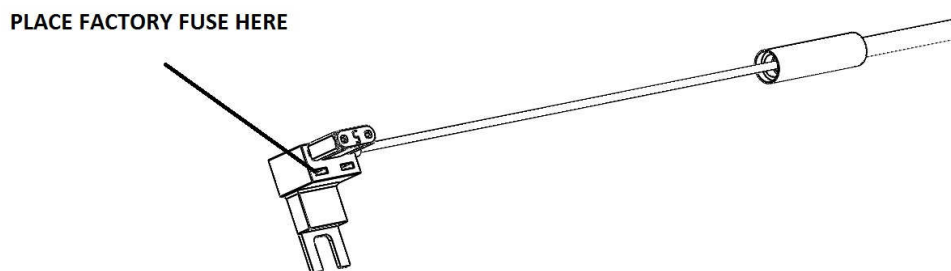

FIGURE 1-17
22. Locate the fuse box and remove the top cover to gain access to the fuses. Using a voltmeter or test light, find a fuse that is "hot" when the key is in the "on" position. Remove the selected fuse and replace it with the mini-fuse tap. Take the factory fuse you just removed and place it in the empty spot on the fuse tap. **FIGURE 1-17**